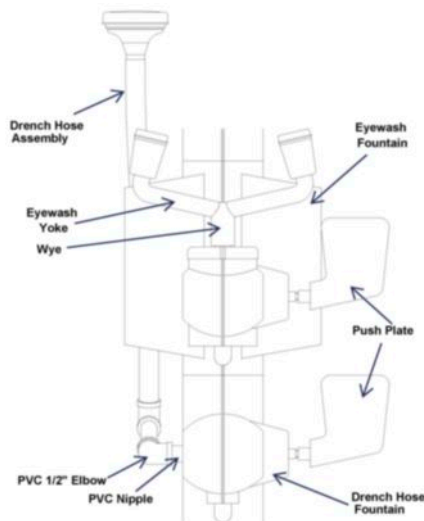

Figure 4-2. Eyewash and Drench Hose Fountain Sections
3. Eyewash: Remove the eyewash yoke by holding it at the wye and turning it counter clockwise (see Figure 4-2).
4. Drench Hose: With a suitable wrench, remove the gray 1/2” PVC elbow ensuring that the horizontal PVC nipple entering the cover through the rubber grommet remains in place. The PVC nipple will act as a locator for the covers during reinstallation (see Figure 4-2).